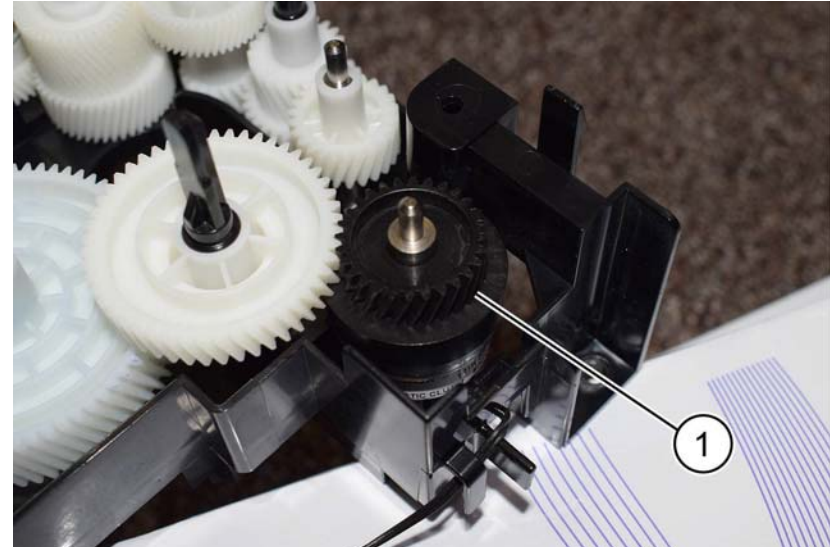

Figure 3 Clutch removal
4. Remove the takeaway clutch (1) or lock bearing, PL 40.10 Item 4 as necessary, Figure 3.